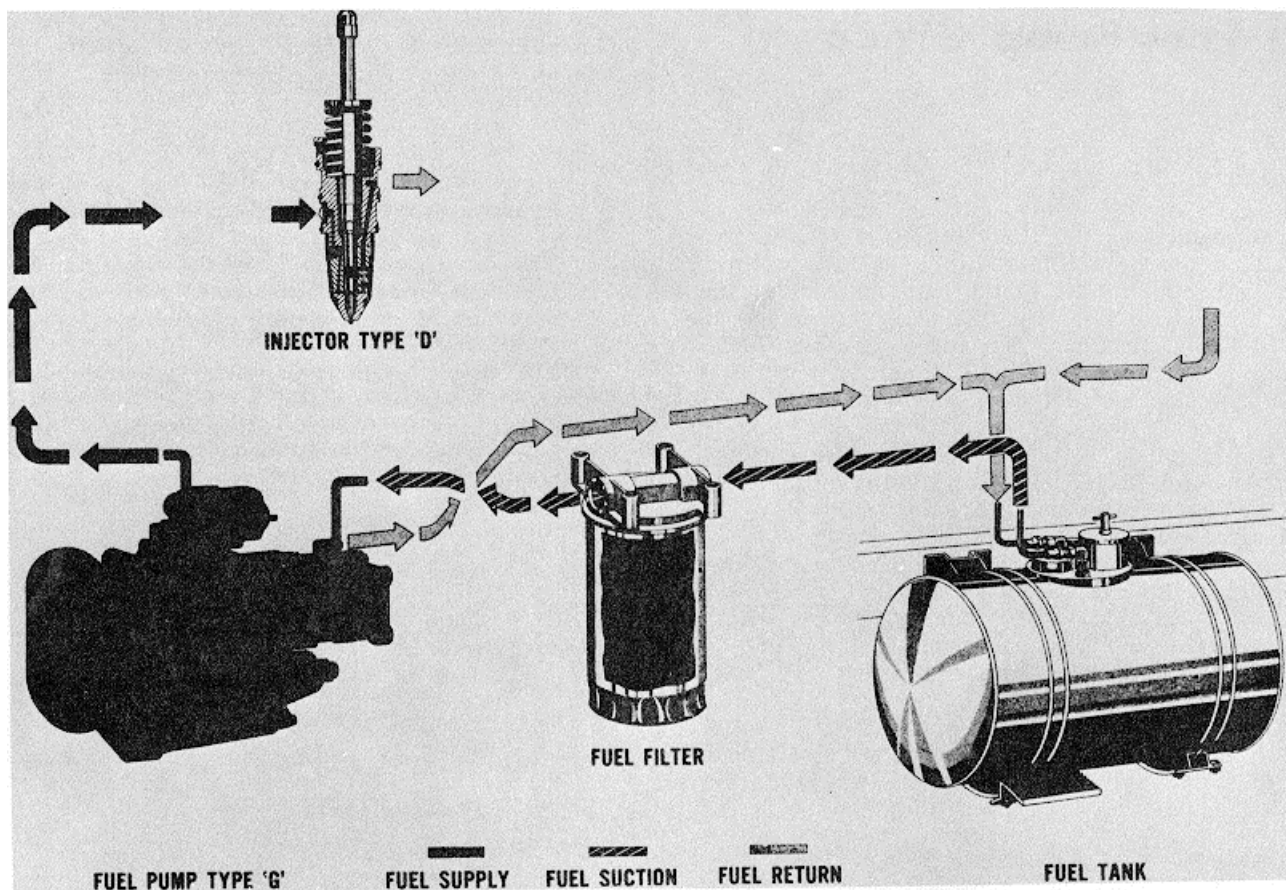

Fig. 5.1, FWC-33. Fuel flow in PT fuel system
1. A fuel pump to draw fuel from the supply tank and deliver it to individual injectors for each cylinder. Fig. 5-1.